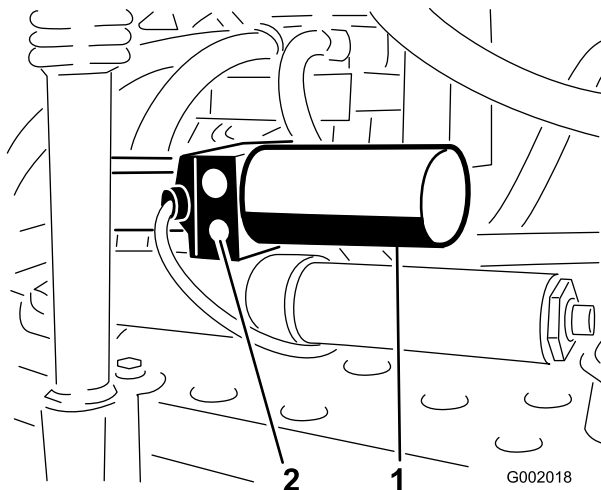

Figure 61
1. Locate the manual relief valve on the actuator for each boom. The manual relief valve is the smaller valve and is only on one side of the actuator body (Figure 61).